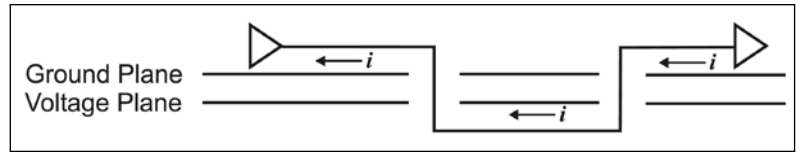

Figure 1: Return current path is discontinuous when switching reference planes
2. The worst discontinuity occurs if the signal changes reference planes from a ground plane to a voltage plane, as illustrated in Figure 1. Clearly, ground to voltage vias can't be used to provide a return path, so the only option is to insert decoupling capacitors at the perimeter in order to provide a low impedance high frequency return path across the boundary. Unfortunately, this is not a fully acceptable solution at high frequencies, but will be reasonably good for lower frequency signal paths.